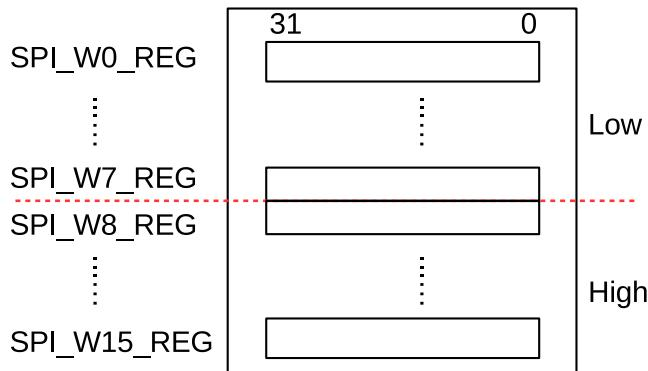

Figure 27.5.1. Data Buffer Used in CPU-Controlled Transfer
GP-SPI2 provides 16 x 32-bit data buffers, i.e., SPI\\_W0\\_REG ~ SPI\\_W15\\_REG, see Figure 27.5-1.
- SPI Buffer: SPI\\_WO\\_REG ~ SPI\\_W15\\_REG, see Figure 27.5-1. The data transferred in CPU-controlled mode is prepared in this buffer.